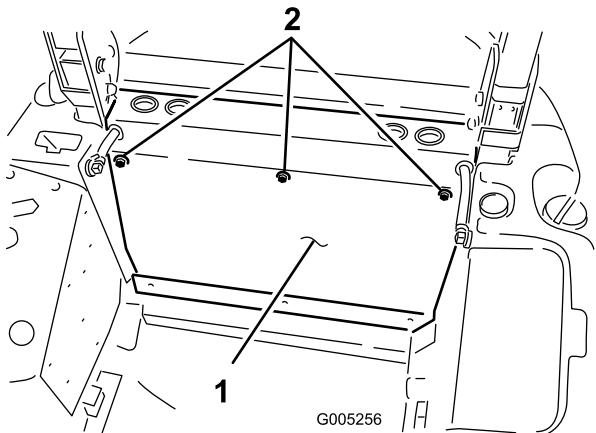

Figure 60
1. Place the rear panel into position and align the top mounting holes with the holes in the frame cross member (Figure 60). Secure the top of the panel to the cross member with 3 screws previously removed.